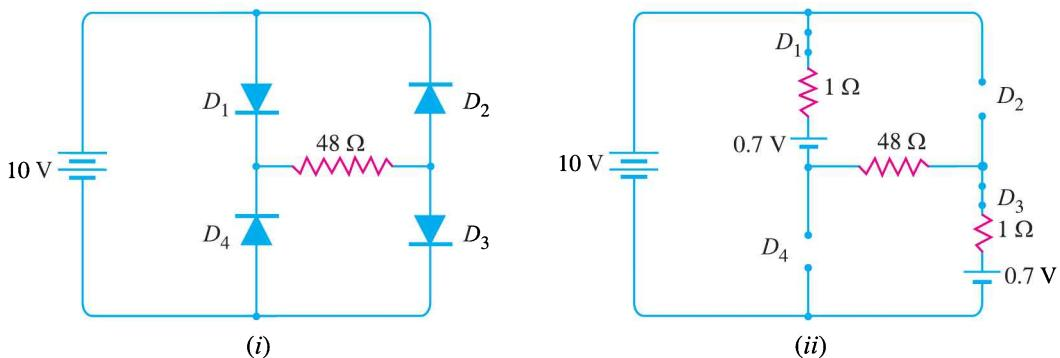

Fig. 6.11
**Example 6.4.** Calculate the current through  $48 \Omega$  resistor in the circuit shown in Fig. 6.11 (i). Assume the diodes to be of silicon and forward resistance of each diode is  $1 \Omega$ .
**Solution.** Diodes  $D_1$  and  $D_3$  are forward biased while diodes  $D_2$  and  $D_4$  are reverse biased. We can, therefore, consider the branches containing diodes  $D_2$  and  $D_4$  as "open". Replacing diodes  $D_1$  and  $D_3$  by their equivalent circuits and making the branches containing diodes  $D_2$  and  $D_4$  open, we get the circuit shown in Fig. 6.11 (ii). Note that for a silicon diode, the barrier voltage is 0.7 V.